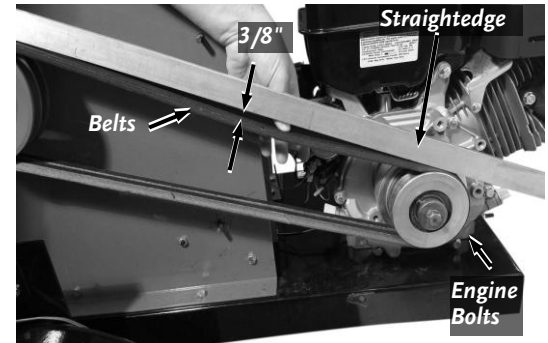

Figure 35
6. Place a Straightedge along the Belt (over the Clutch and Sheave) and push down firmly on the Belt to measure the deflection from the Straightedge to the Belt with a tape measure (**Figure 35**).